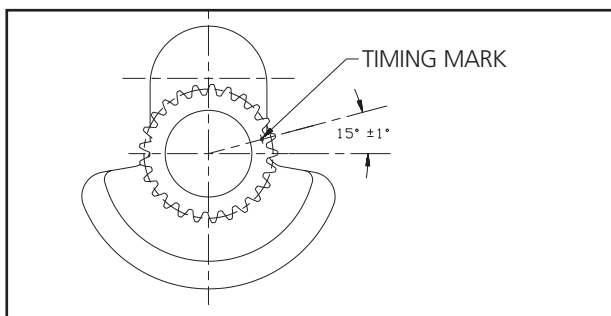

Figure 11.10 — Timing Mark on Crankshaft Gear
4. Rotate the crankshaft until the timing mark (Figure 11.10) is toward the cam gear side of the crankcase. The timing mark on the crankshaft's large gear will be toward the balancer side.
The balancer gear must mate with the crankshaft large gear and timing marks must be aligned as shown in Figure 11.10